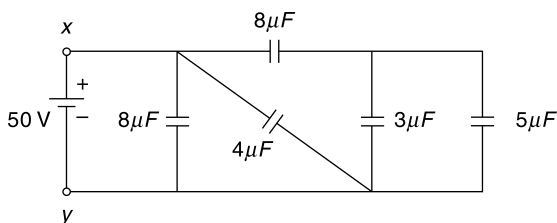

Fig. 2.28 Network of capacitances of Ex. 2.14
2.14 Find the equivalent capacitance across terminals x - y in Fig. 2.28. Also find the time to charge the capacitances by a direct current of 10A .